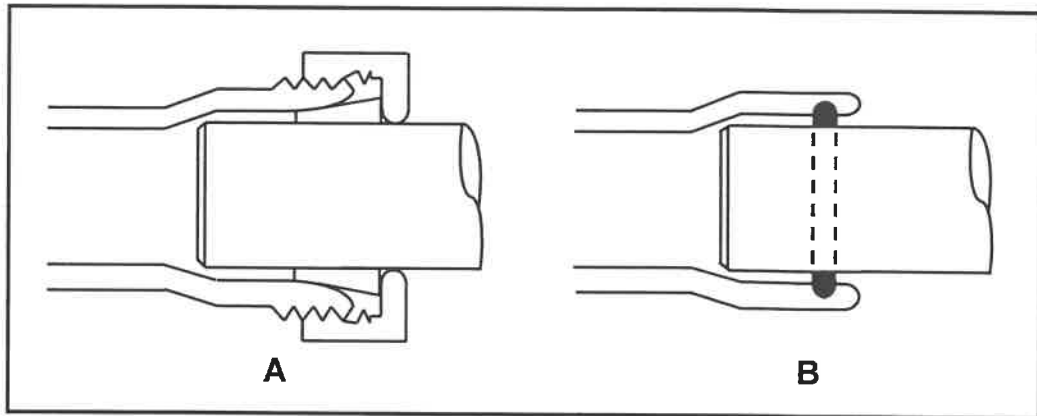

FIGURE 6.2
- (1)
6.2 FIGURE 6.2 below shows TWO different types of joining methods for joining PVC pipes.